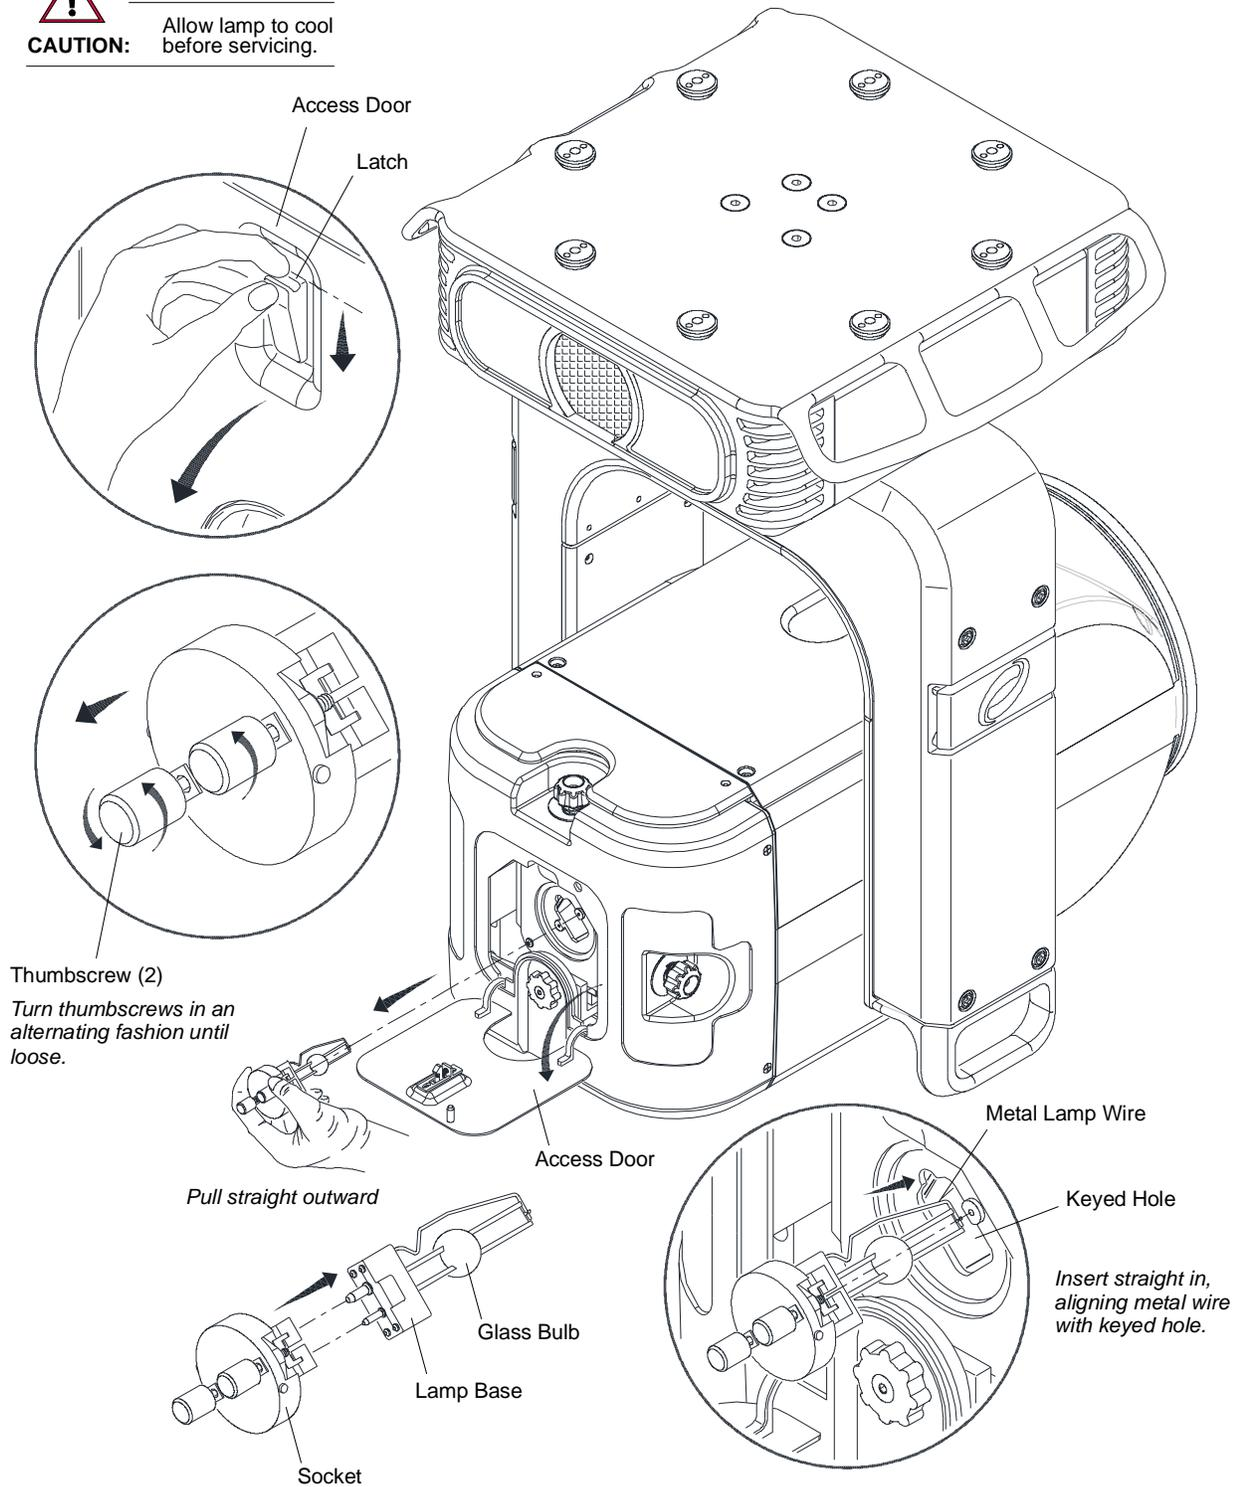

Figure 4-2: Replacing the Lamp
- Step 3. At rear lamp access door, push down on latch to open door. Refer to **Figure 4-2** on next page.